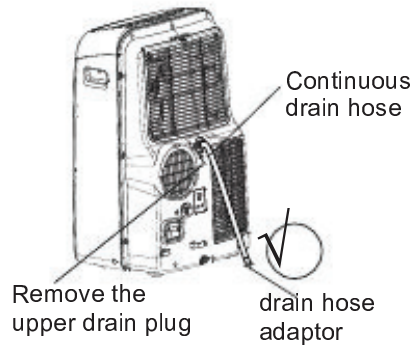

Fig.20a
- During dehumidifying modes, remove the upper drain plug from the back of the unit, install the drain connector($\frac{5}{8}$ " universal female mender) with $\frac{3}{4}$ " hose(locally purchased). For the models without drain connector, just attach the drain hose to the hole. Place the open end of the hose adaptor directly over the drain area in your basement floor. Please refer to Fig.20a.
NOTE: Make sure the hose is secure so there are no leaks. Direct the hose toward the drain, making sure that there are no kinks that will stop the water flowing. Place the end of the hose into the drain and make sure the end of the hose is down to let the water flow smoothly. (See Fig.20a,20b,21a). Do never let it up. (See Fig.21b).